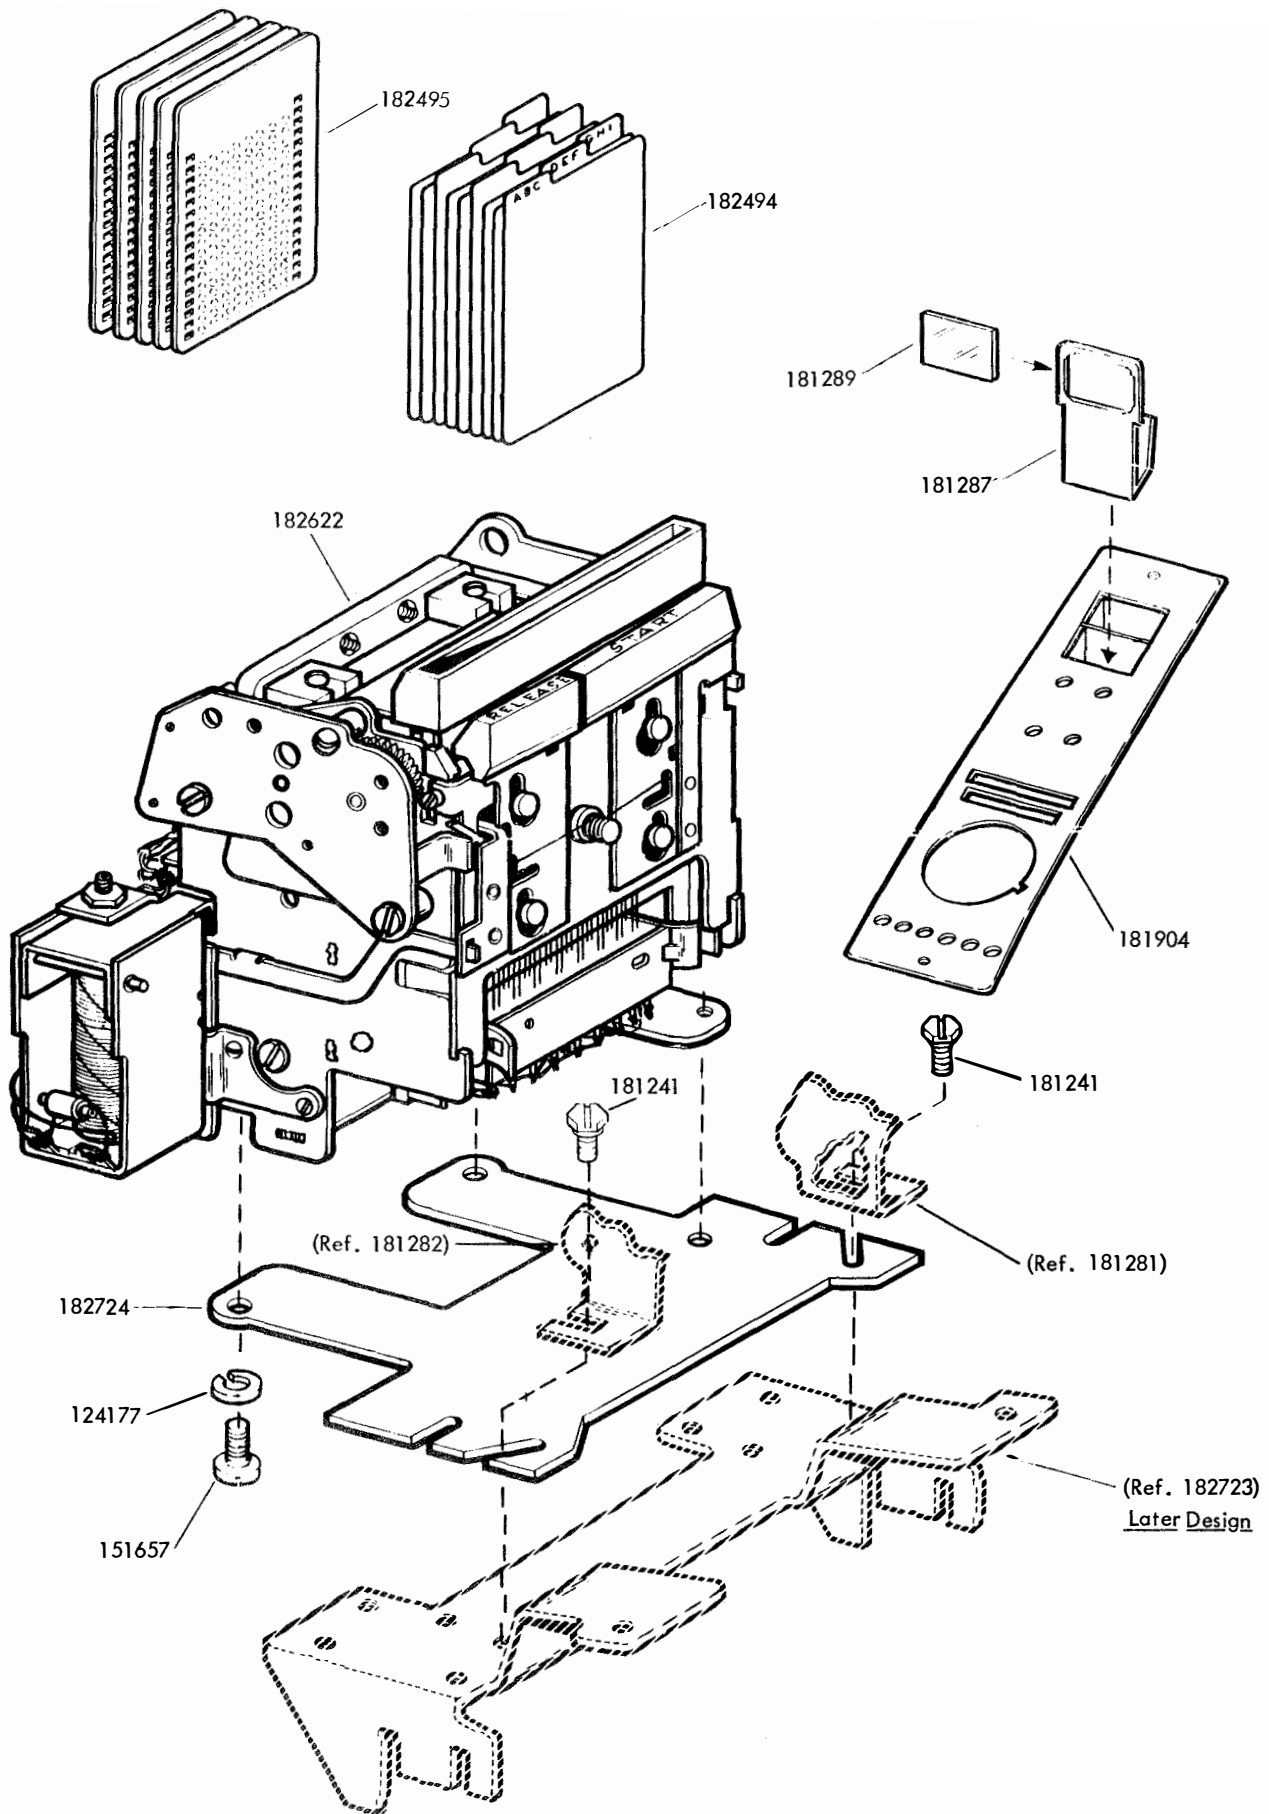

FIGURE 2
2.08 Mount the card dialer on plate 182724 using three screws 151657 and lockwashers 124177 (Figure 2).
- 2.11 Install the dc card dialer assembly and reinstall the rotary dial using four screws with lockwashers 181241 for units equipped with the later design bracket 182723. For units equipped with the early design bracket 182723, reinstall the rotary dial using the two mounting screws retained in Paragraph 2. On units equipped with the later design bracket 182723, discard spacer 181283 from under the rotary dial mounting brackets and use the forward mounting holes in plate 182724 for securing the rotary dial mounting brackets. See Figure 2. Reinstall the Out-of-Service switch and control light mounting bracket using the screws retained in 2.05.